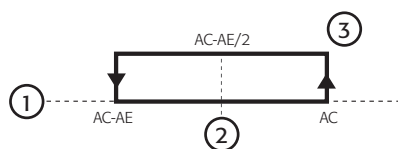

Fig. 4.I
- indicates that the limit between Ac and AE has been exceeded (deriving from the calculation: $Ac-AE/2$, see Fig. 4.I);
- indicates that the temperature set point Ac has been exceeded (see Fig. 4.I);